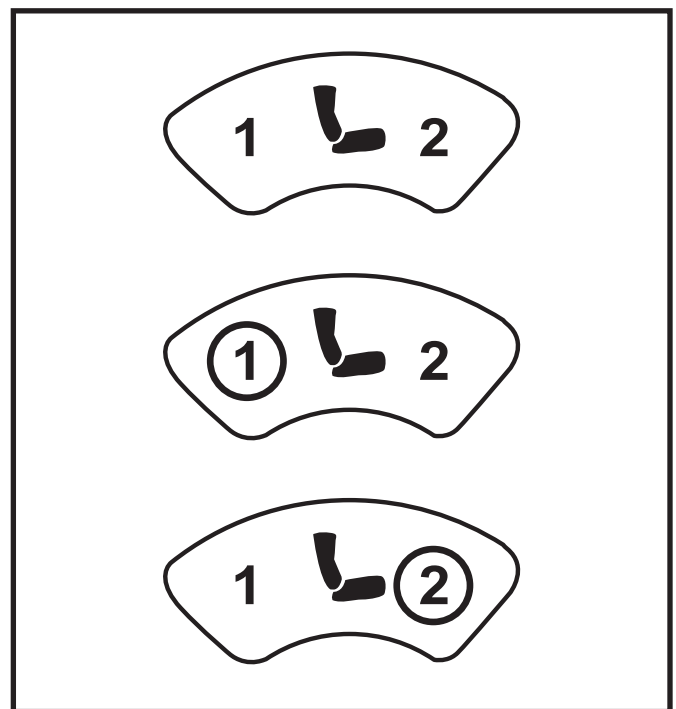

Figure 9. Actuator Indicators (None, Actuator 1, and Actuator 2 Shown)
3. Push the joystick to the right or press the actuator select key again to cycle through the available actuators. The actuator indicators will display which actuator is activated. **See figure 9.**